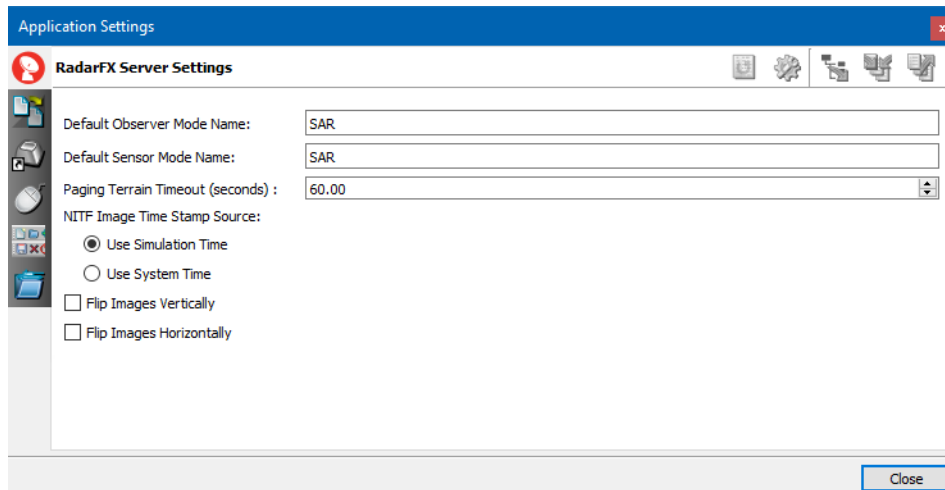

Figure 2-2. RadarFX Server Settings page
2. Select the RadarFX Server Settings page (Figure 2-2).